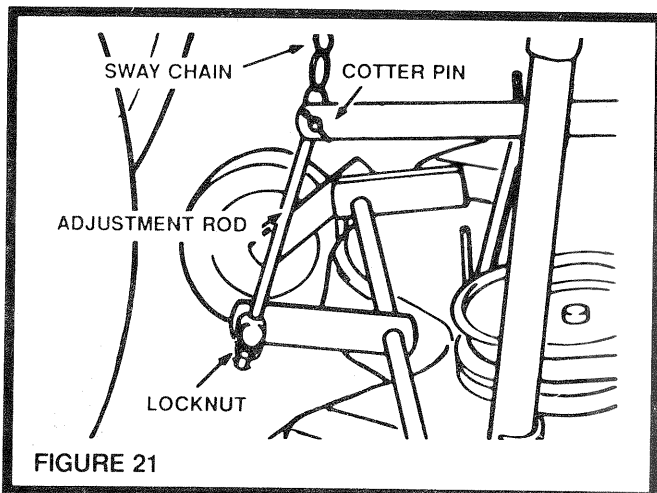

FIGURE 21
2. If adjustment is required, turn the Locknut (Fig. 21) on the Adjustment Rod (when viewed from above), in the clockwise direction to raise the rear of the mower deck and turn in counterclockwise direction to lower the rear of mower deck.
2. Remove Cotter Pin (Fig. 21) from the top of the Adjustment Rod. Remove Adjustment Rod (Fig. 21) to remove Belt.
4. Remove Cotter Pin (Fig. 21) from the top of the Adjustment Rod. Remove Adjustment Rod and slide Sway Chain (Fig. 21) off.